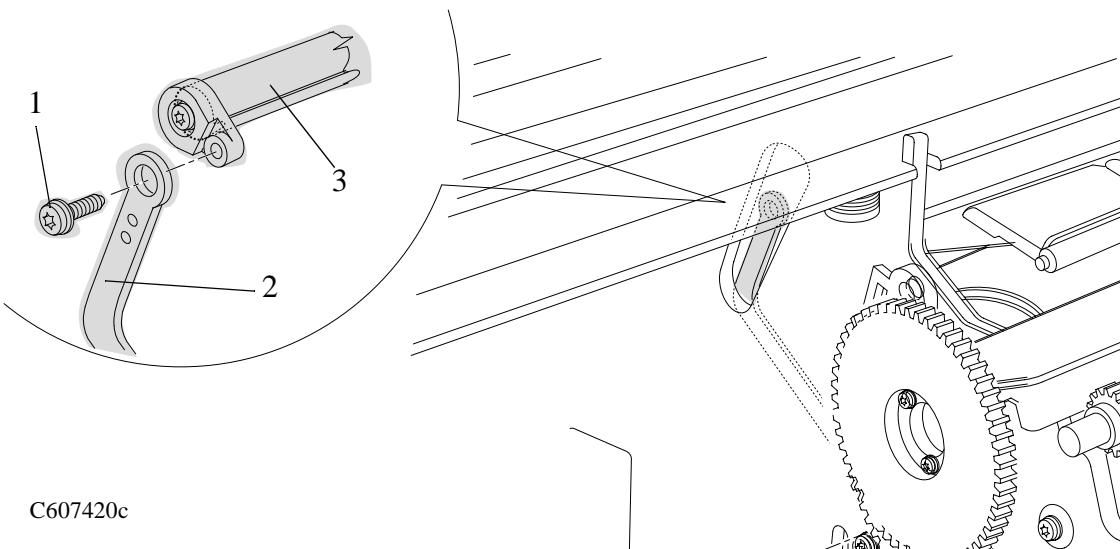

Figure 70: Linkage Rod
3. Remove the T-10 screw (item 1) from the linkage rod (item 2) and the pinch-wheel cam (item 3) (refer to Figure 70).